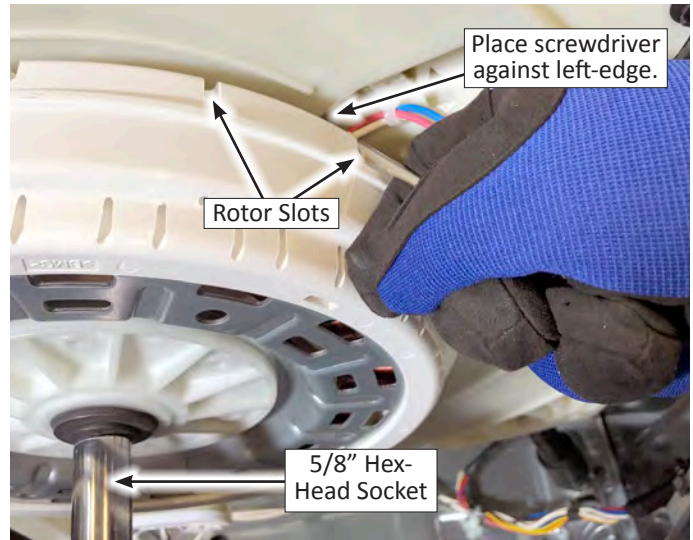

Figure 2
7. Block the rotor by inserting a narrow shaft flat-blade screwdriver into the slot at the back of the rotor as illustrated in Figure 2. Align the tip of the screwdriver with the channel left-edge when loosening the rotor bolt and the right-edge when tightening. See Figure 2.
8. While the rotor is blocked, use a ratchet and a 5/8" hex head bit to loosen the rotor bolt as shown in Figure 2.